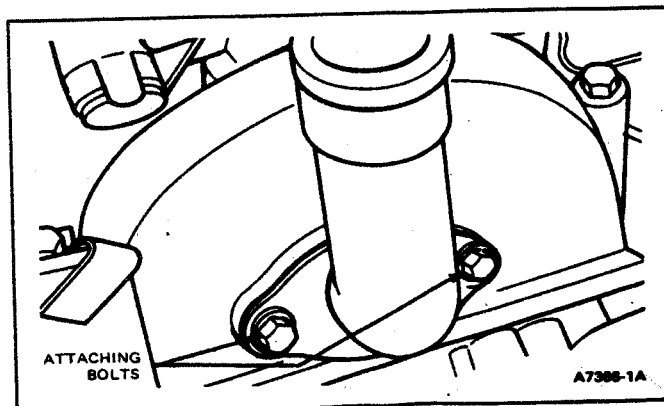

FIG. 49 Oil Filler Neck Removal
4. Remove engine oil filler neck (Fig. 49).
23. Install oil filler neck and tighten to specifications (Fig. 49).